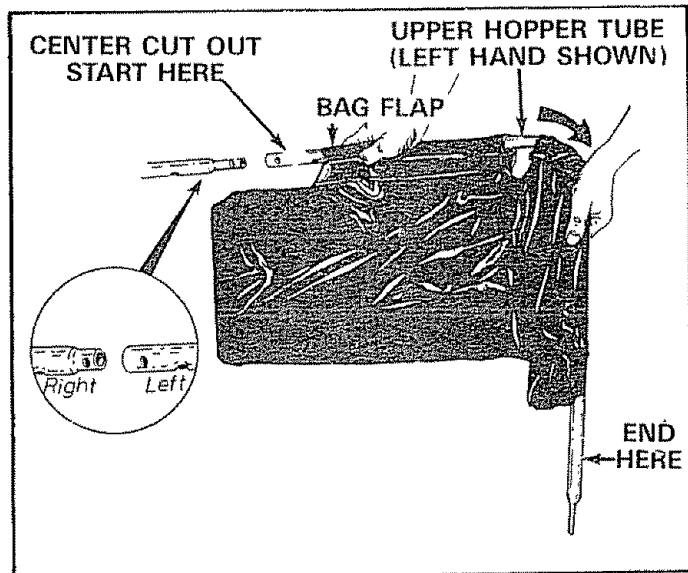

FIGURE 9
1. Insert the left hand upper hopper tube through the hopper bag stitched flaps, starting at the center cut out in the top of the hopper bag. See figures 9, 10 and 11. Repeat for the right hand upper hopper tube.